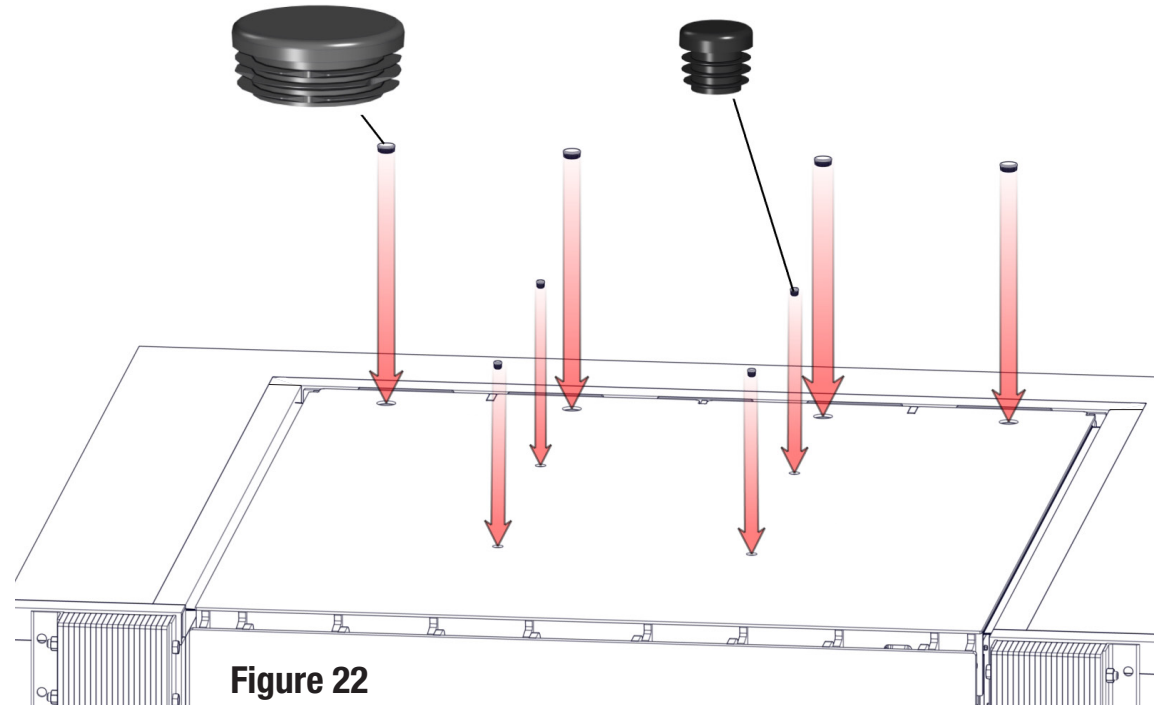

Figure 22
4. Locate the eight deck plugs in the hardware bag. Insert them in the four holes where the deck transportation loops were bolted and the four holes for accessing the rear leveling bolts, as shown in **Figure 22**. Ensure they are pushed all the way down below the top surface of the deck in order to prevent damage.